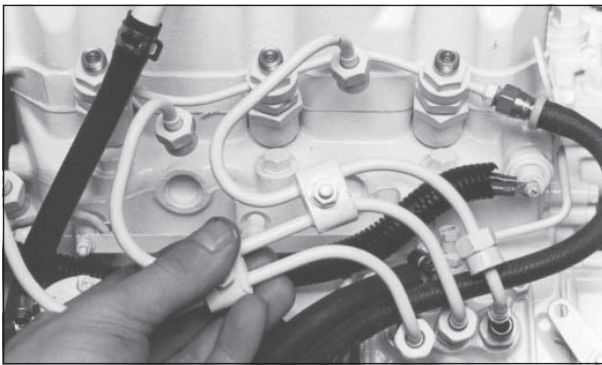

Figure 8: Remove delivery lines.
- c. Remove delivery lines by disconnecting from injectors and injection pump (Figure 8). Remove all lines as an assembly; do not remove the spacers. Cover the ends of the lines, the injector inlets and injection pump outlets to keep dirt out.